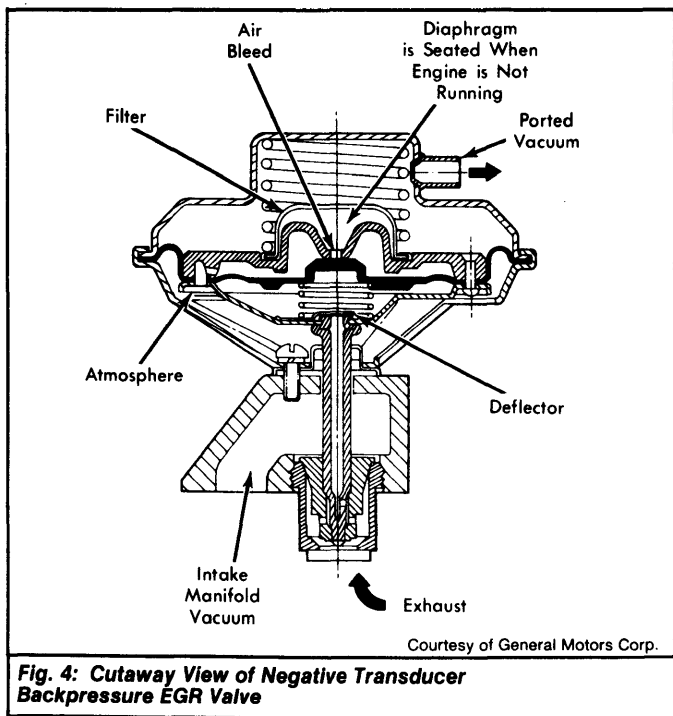

Fig. 4: Cutaway View of Negative Transducer Backpressure EGR Valve
**Negative Transducer Backpressure EGR Valve** - The negative transducer backpressure EGR valve assembly has the same function as the positive backpressure EGR valve except the transducer is designed to allow the valve to open with negative (low) exhaust backpressure. See Fig. 4.